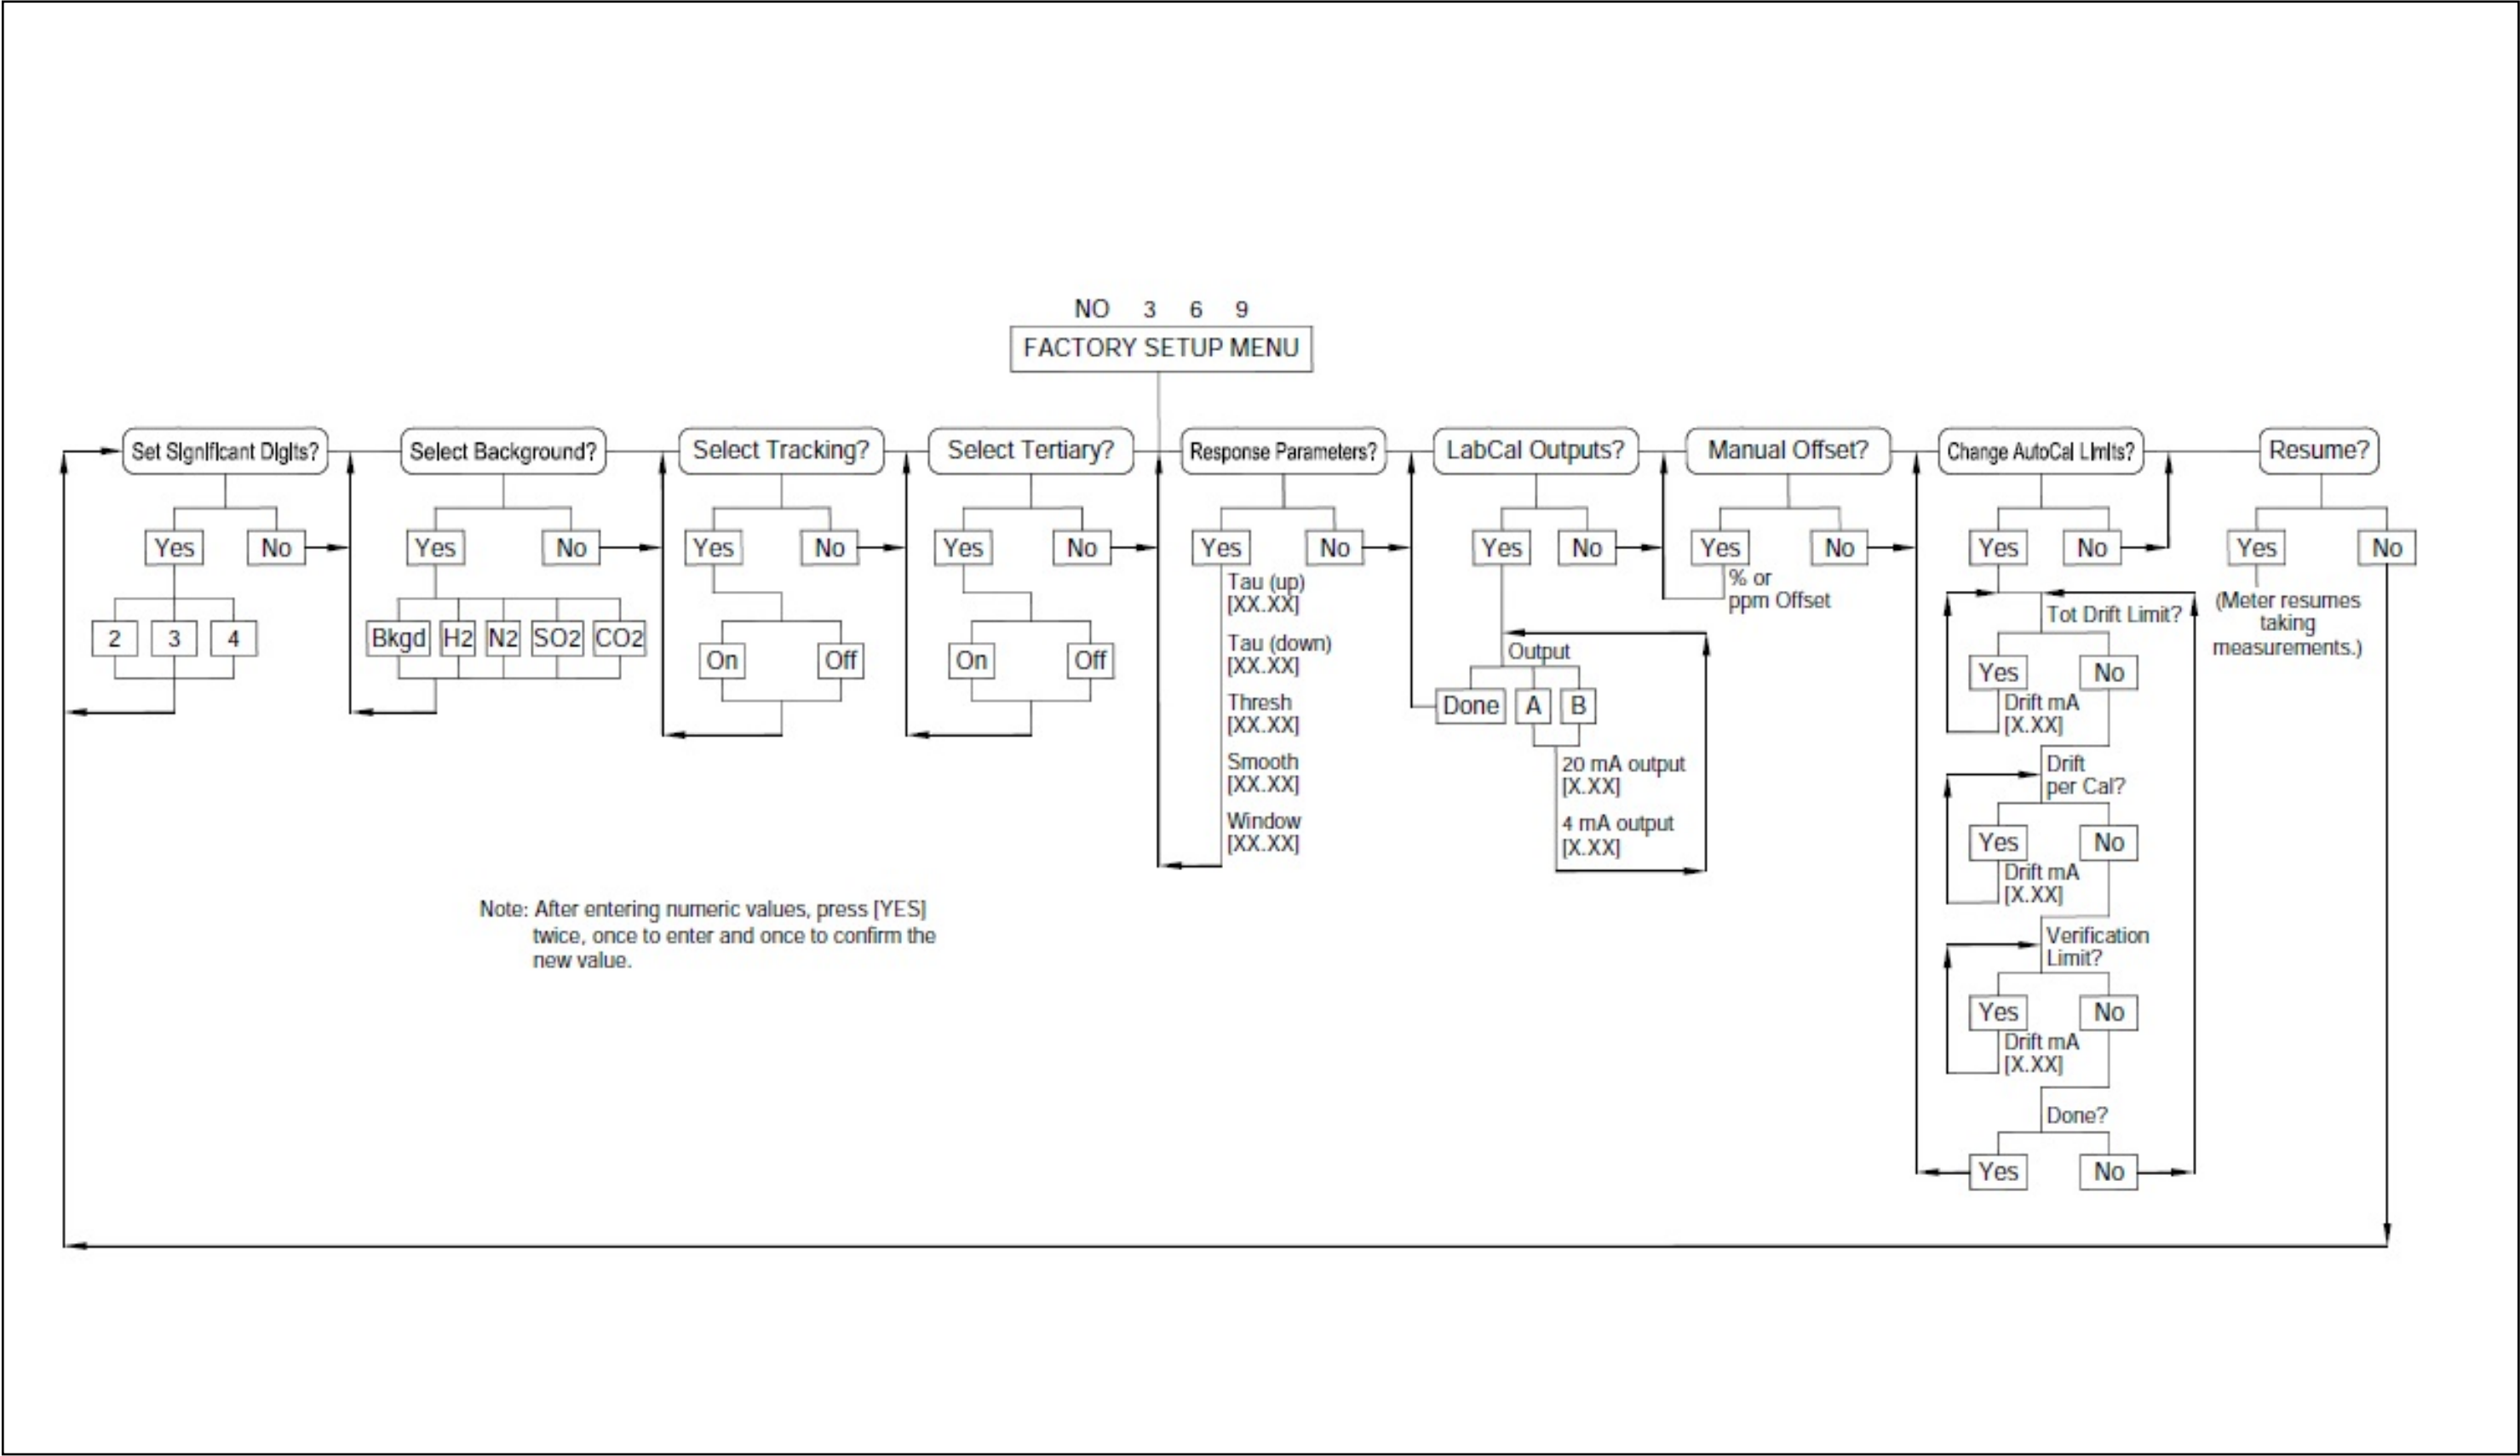

Figure 30: Factory Setup Menu
- *Figure 30:* Factory Setup Menu